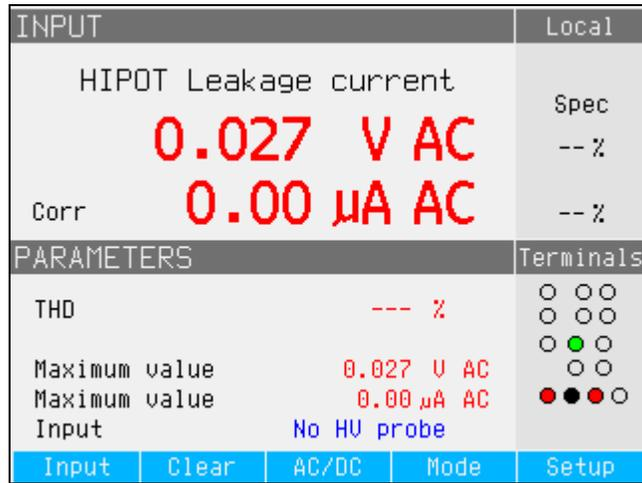

Figure 23. Multimeter Display with Hipot Leakage Current Measurement for Voltages <1100 V iep061.bmp
5. Simulate leakage current using the 5322A LOAD instrument connected between the Hi signal terminal of the HIPOT tester and the Meter A input terminal. See Figures 23, 24, and 25.